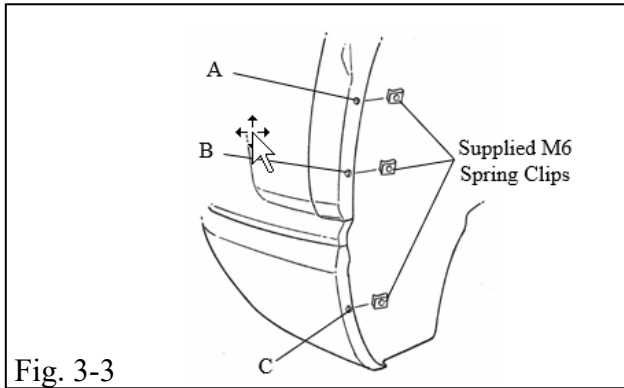

Fig. 3-3
- c. While holding top of mudguard tight to panel install supplied M6 x 19mm screw in location A and tighten. (Fig. 3-3)
- d. While holding lower mudguard tight to panel reinstall existing lower bottom push pin in location D. (Fig. 3-3)
- e. Install supplied M5 spring clips (small) centered over panel drilled holes with turned up edge on inside of panel at locations A and B. (Fig. 3-3)